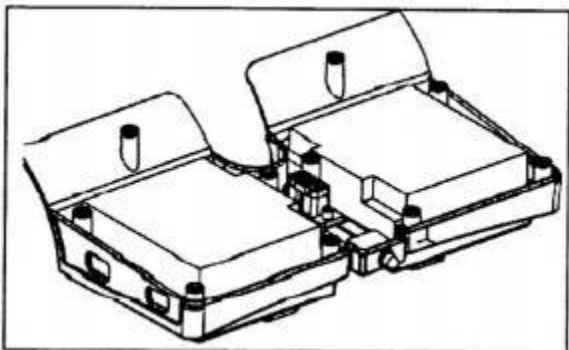

Figure 14. Battery replacement.
- 3.Remove the eight(8) screws from the perimeter of the battery pack.
5. Disconnect the black(-) a and red(+)battery cables from the battery terminals of each of battery: See figure14